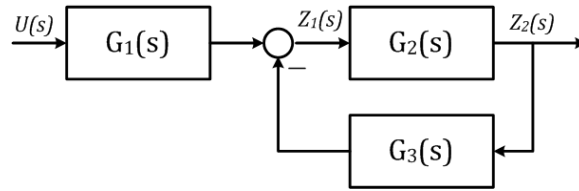

Figure 9: Block diagram of the predator-prey system
The block diagram for this system is shown in Figure 9, where $Z_1(s) = \mathcal{L}\{z_1(t)\}$, $Z_2(s) = \mathcal{L}\{z_2(t)\}$, $U(s) = \mathcal{L}\{u(t)\}$.
1. Apply the Laplace transform of relations (1) and (2) and determine the transfer functions $G_1(s)$, $G_2(s)$ and $G_3(s)$, as shown in Figure 9.